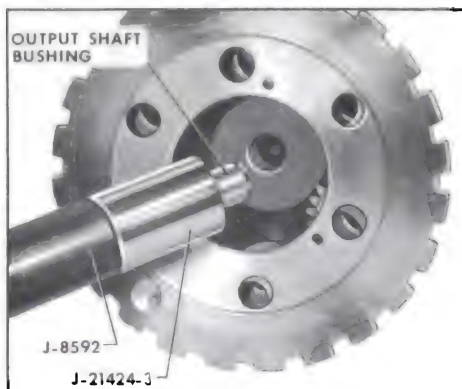

Figure 5-270
1. Using tool J-21424-3 and J-8592 press the new bushing in until J-21424-3 touches the machined surface of the planet carrier assembly. See Figure 5-270.